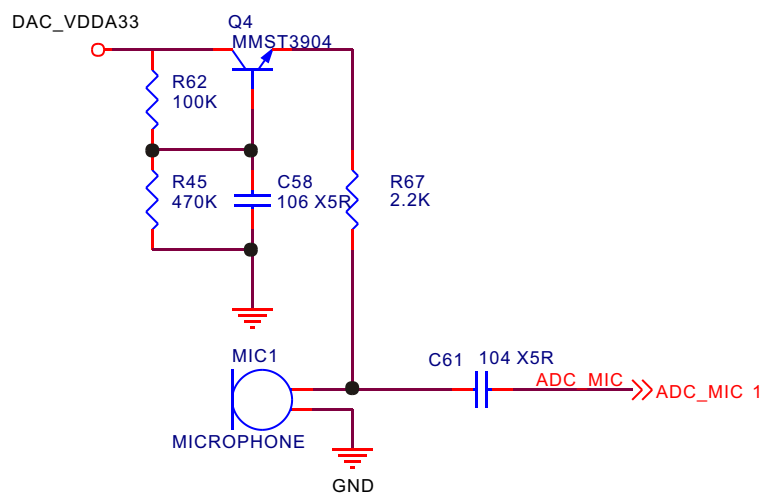

Figure 3.2.9.1 MIC circuit schematic diagram
1. MIC circuit is shown in the figure 3.2.9.1: